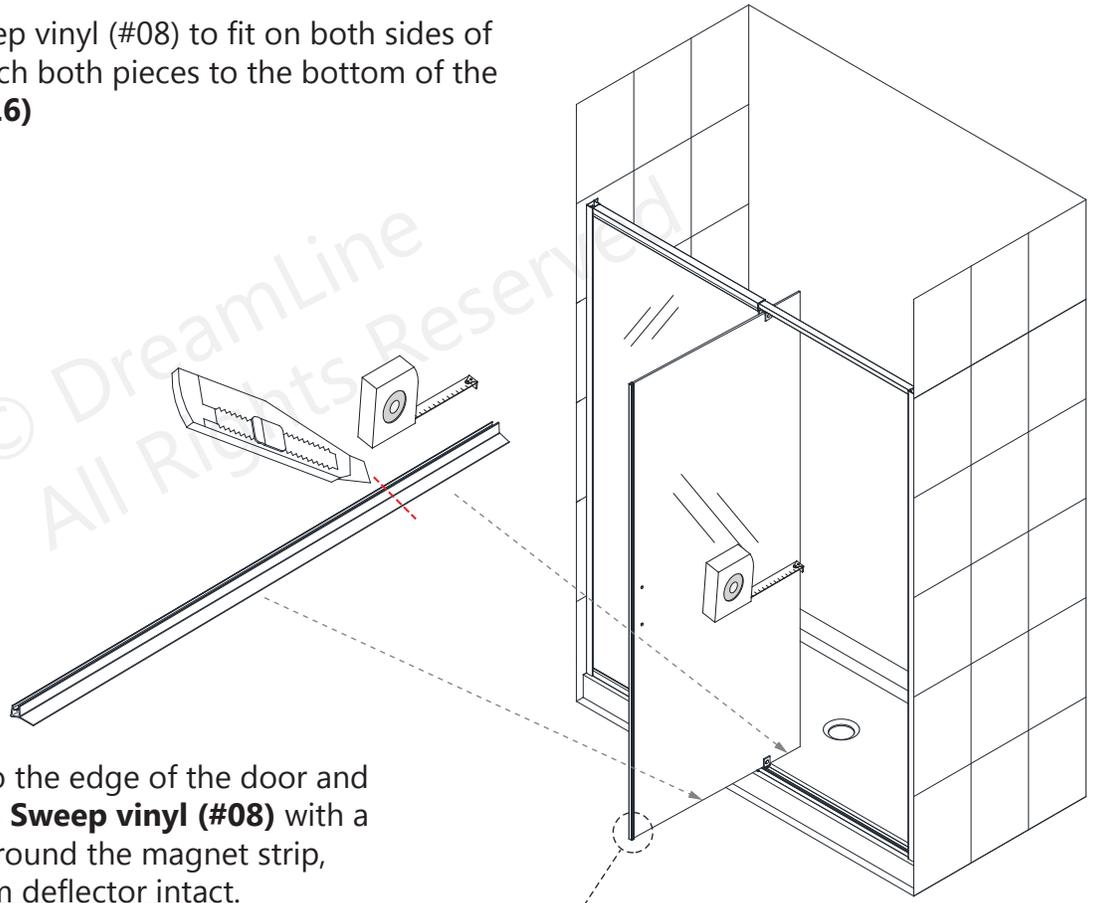

**Fig 15**
**15.** Carefully install the **Door Glass (#17)** onto the **Top & Bottom Pivot Hardware (#16)**. Make certain that all gaskets are in place to protect the glass. Cover the Pivot bolts with the decorative caps. **(Fig 15)**